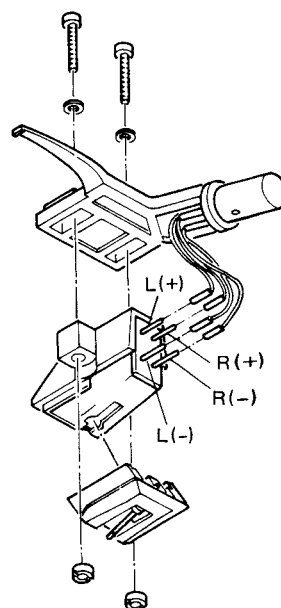

Fig. 5
2. Remove the two long screws on the headshell which hold the cartridge. (Fig. 5)